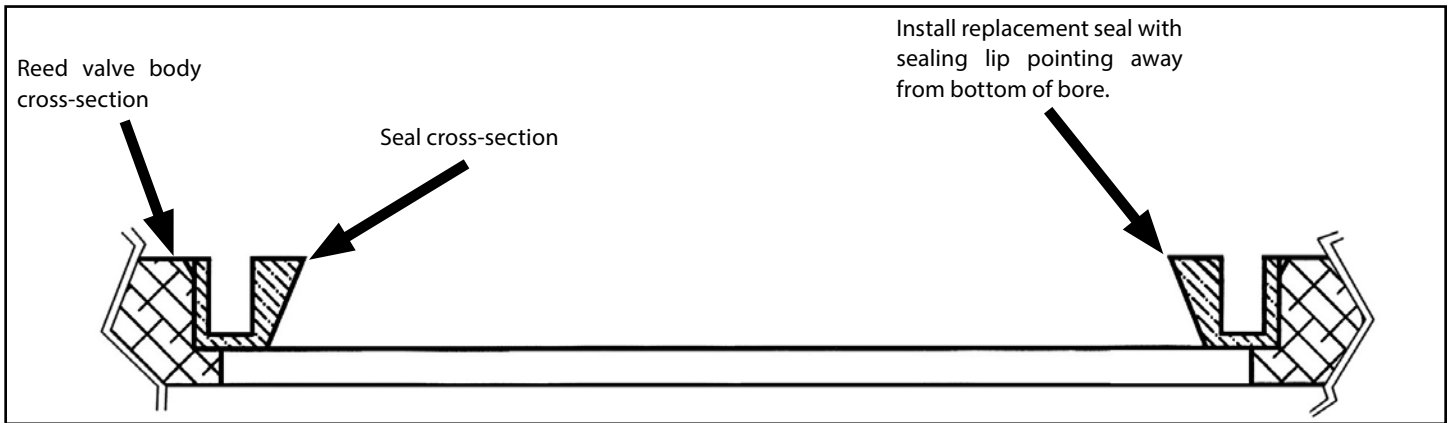

Figure 1
3. Replacement seal can be installed using a 1¼" socket as a driver. The seal must be installed with the sealing lip positioned as in **Figure 1**. Press in seal until it seats in bottom of bore.